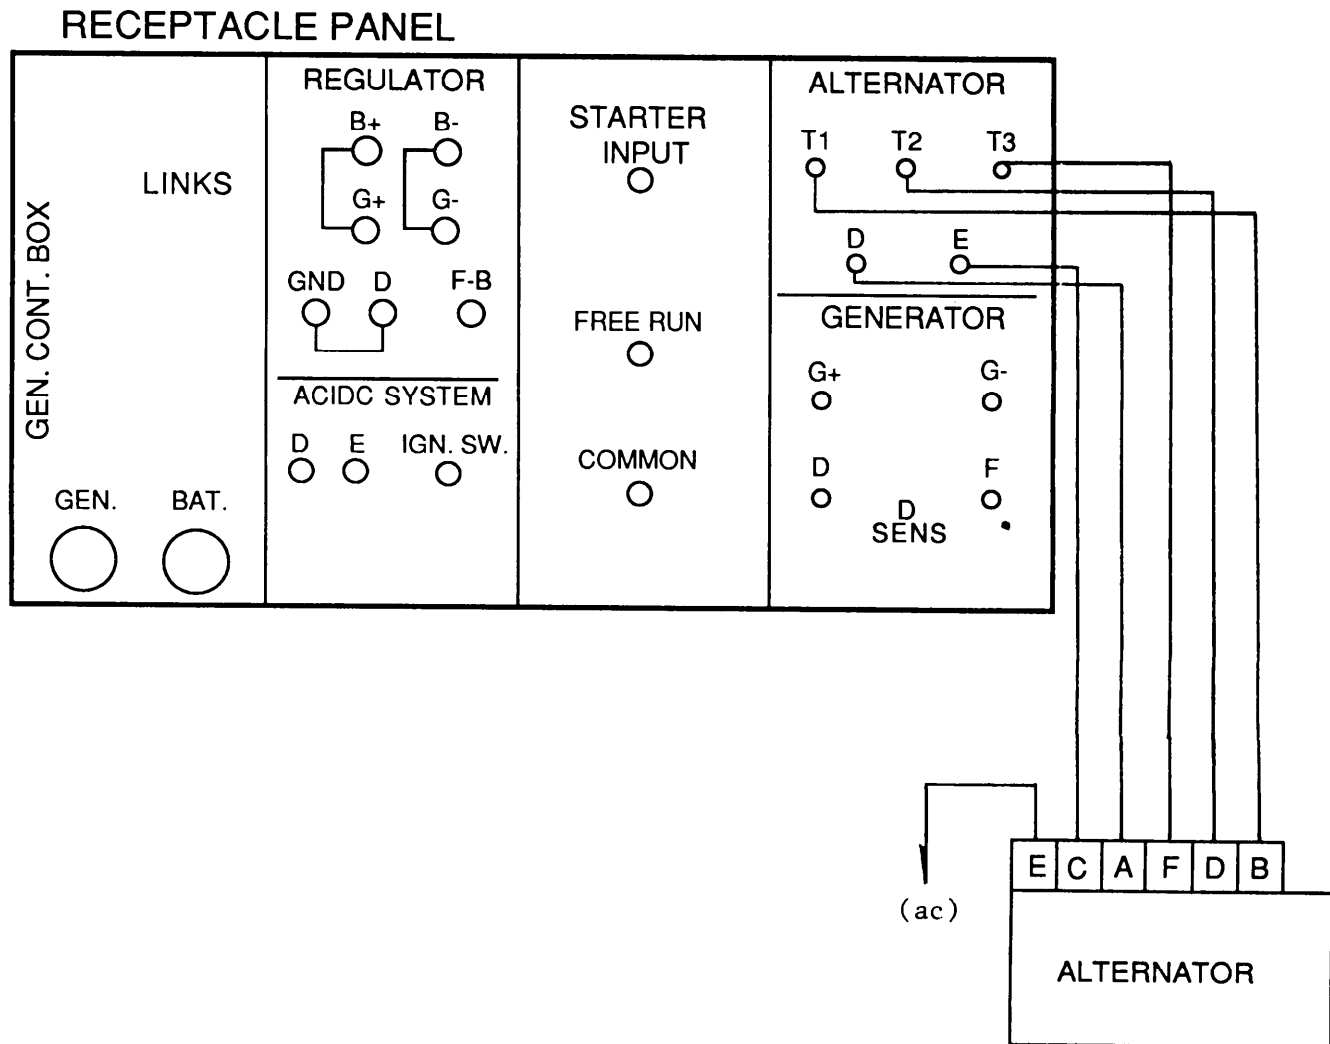

FIGURE D-3 180-AMP Alternator OUTPUT TEST WITHOUT REGULATOR
- 1 Wire the Alternator and rectifier to the test stand as follows (see Figure D-3):